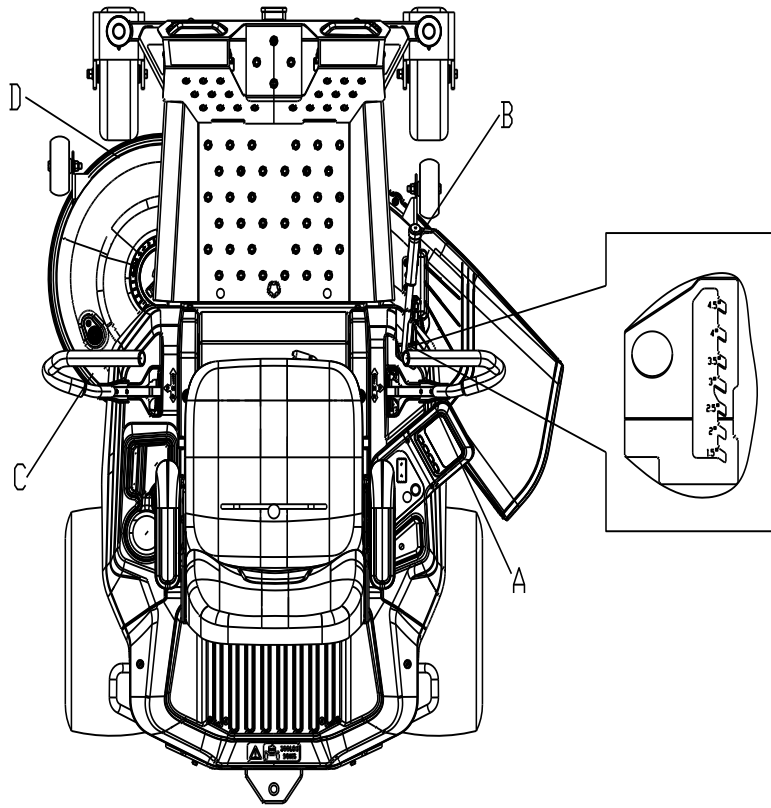

Fig. 5
1. Drive the machine to a level ground, put the deck height adjustment lever in the lowest position, which is 1.5-inch position hole (as shown in Fig.5 below).
3. Loosen the nut (17), adjust the nut (16) and the nut (18): tighten the nuts to increase the blade height and loosen the nuts to decrease the blade height.
4. Use a tape measure to measure the clearance above the ground at the four corners of the deck (A, B, C, D in Fig.5)
5. Use two 18 mm open-end wrenches to roughly adjust the two nuts (16) and (18) to lift A, B, C, and D off the ground at roughly the same height.